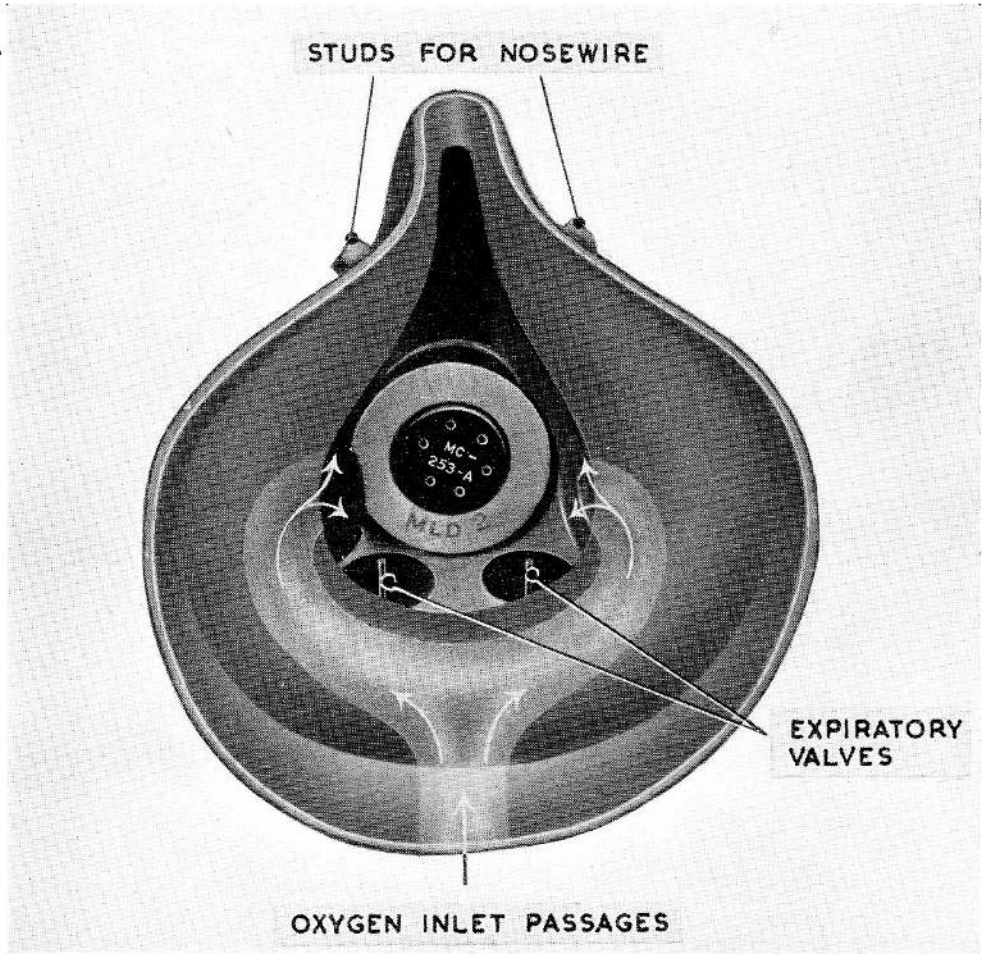

Fig. 2. Facepiece
3. The facepiece (*fig. 2*) is of moulded rubber with orifices and ducts provided for the fitting of valves, microphone assembly, and inlet connector. Also formed during the moulding process are ducts for the flow of oxygen from the inlet connector. The facepiece is lined with suede for comfort.